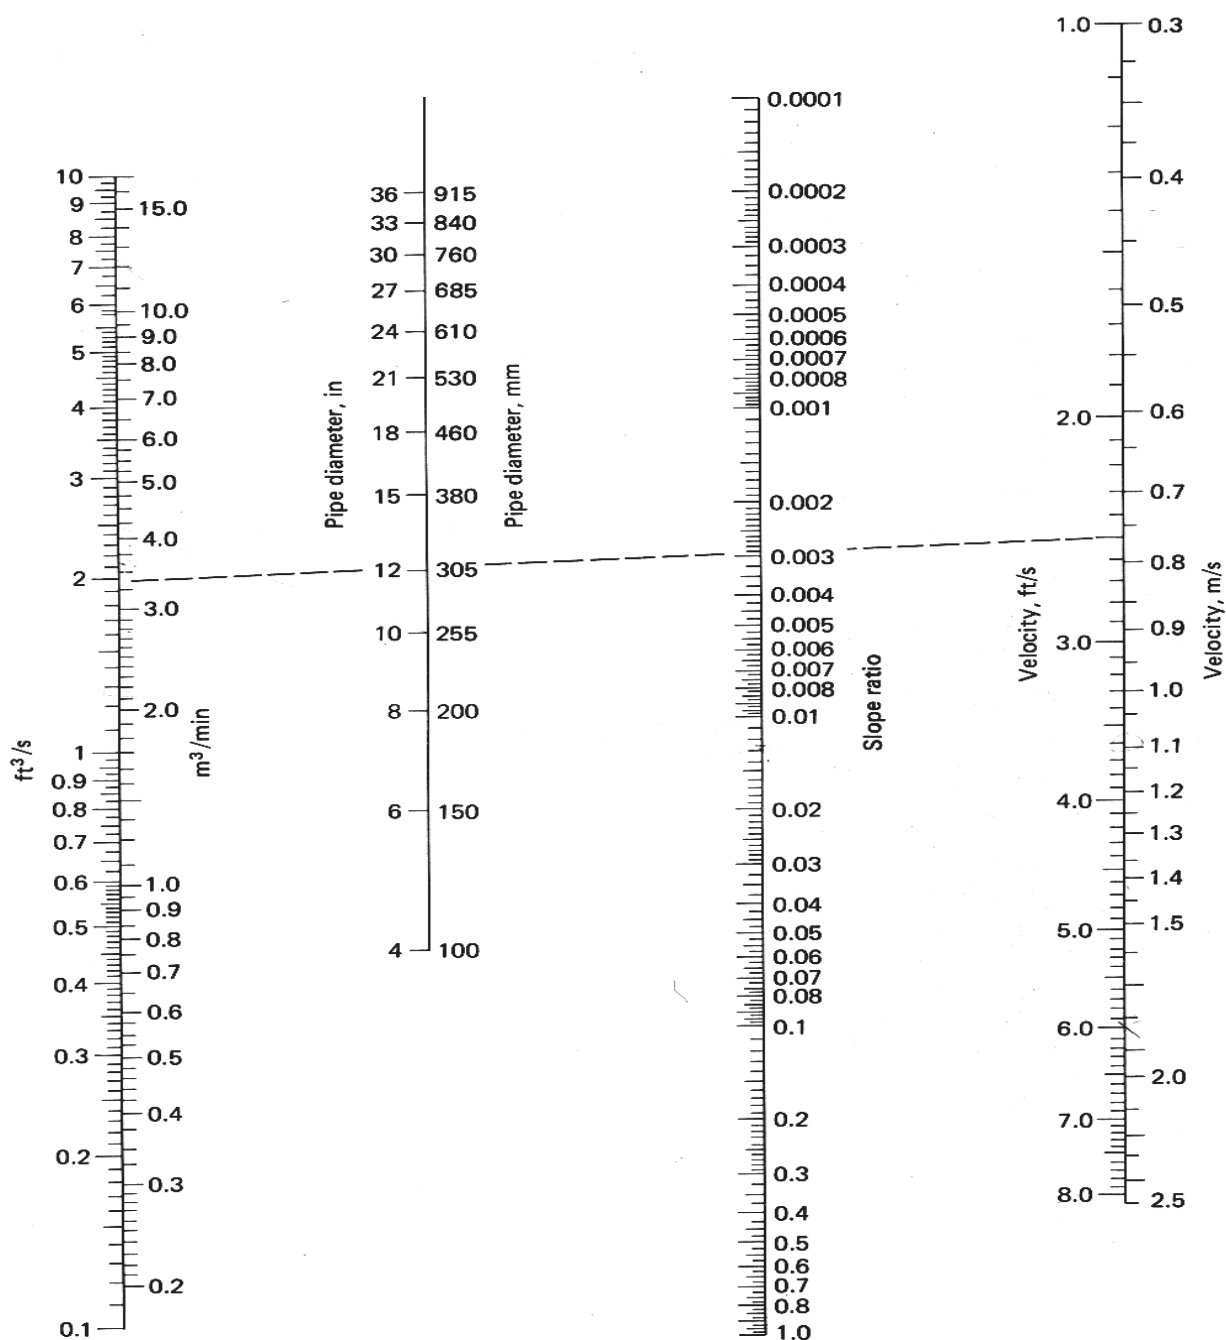

FIGURE 16-2
- Nomograms shown in Figure 16-2 through 16-4 can be used for circular pipes flowing full (n = 0.013):
Then, from Fig. 16-2 we have $Q = 2.9 \text{ m}^3/\text{min}$ and $V = 1.48 \text{ m/s}$
From Fig. 16-2 at $D = 255 \text{ mm}$ and $S = 0.01$ for $n = 0.013$